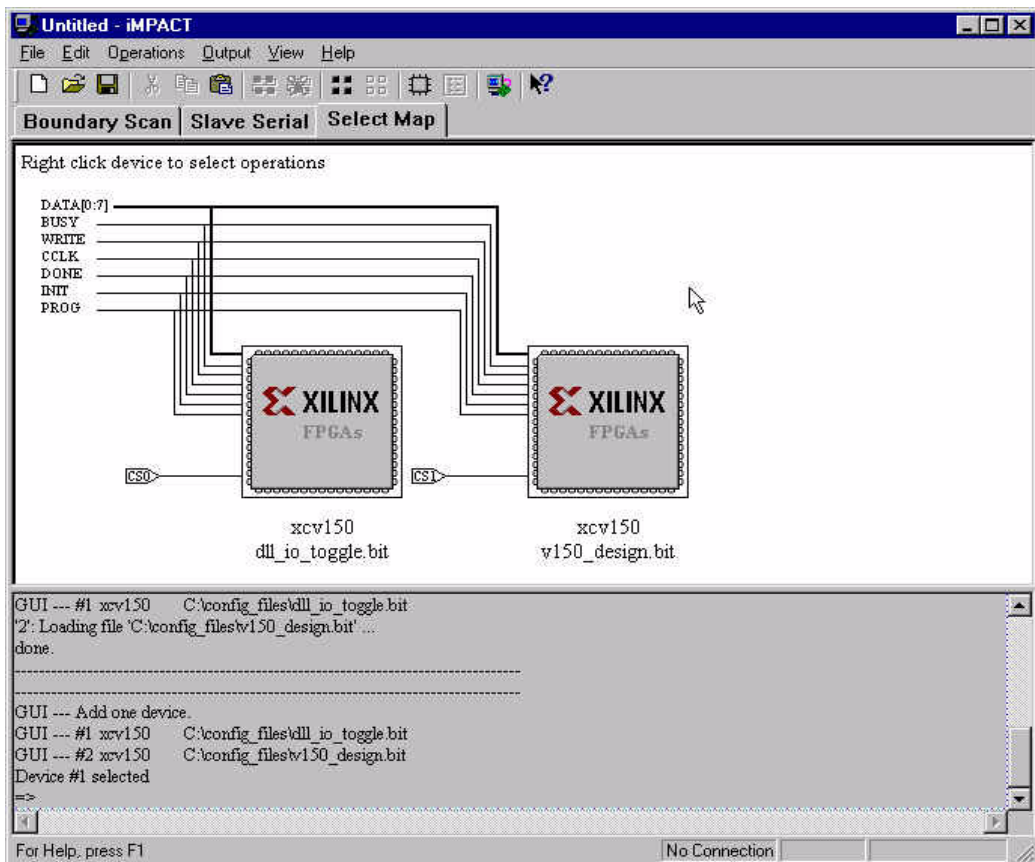

Figure 6-31 Two Devices Added For Select Map Configuration
Once a BIT or RBT file is selected the device displays in the iMPACT window. Up to three devices can be added. Figure 6-31 shows an example where two devices have been added. Notice that each one has a different Chip Select (CS) pin. These correspond to the CS pins on the Multilink Cable. Make sure that the correct CS pin is connected to the correct device. The CS pins can be swapped by dragging and dropping the pins in the window.